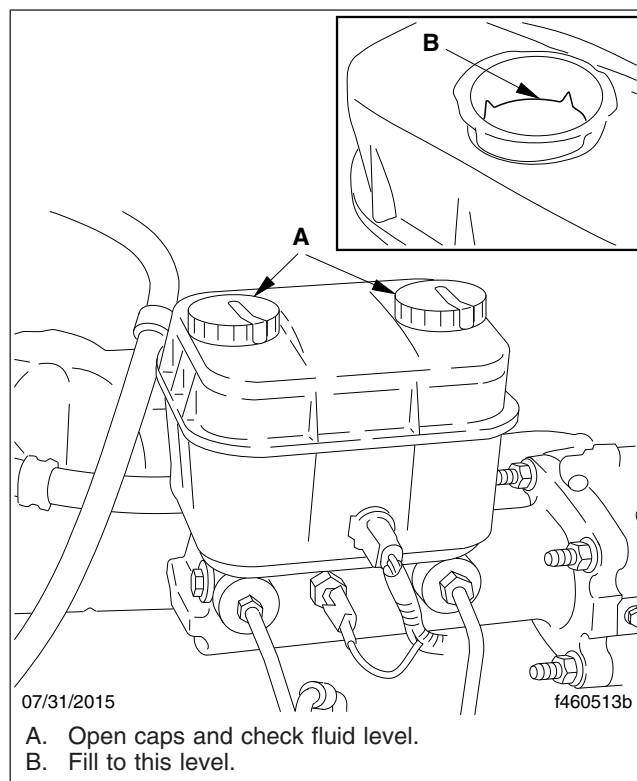

Fig. 11.15, Hydraulic Brake Reservoir
3. Check the hydraulic brake reservoir, if equipped. If necessary, add DOT 3 brake fluid. See Fig. 11.15.